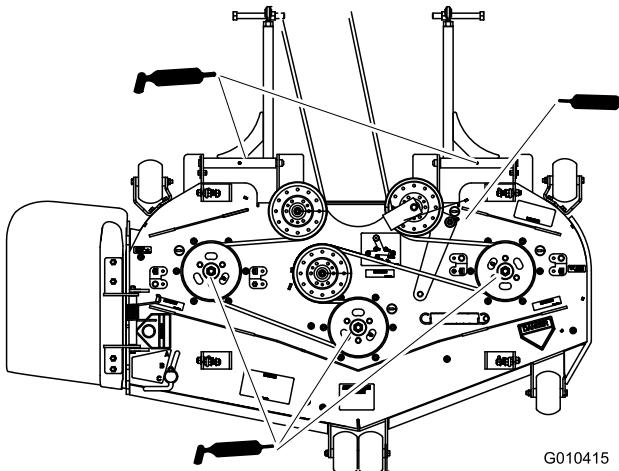

Figure 40
6. Grease the 3 spindle bearings until grease comes out the lower seals \(Figure 40\).
7. Grease the idler arm on the mower deck \(Figure 40\).
8. Grease the fittings on the push arms \(Figure 40\).